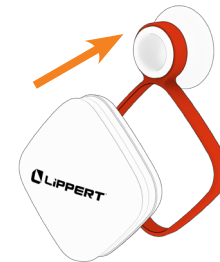

Fig.24
9. Return the sensor back to the rubber band (Fig. 24).